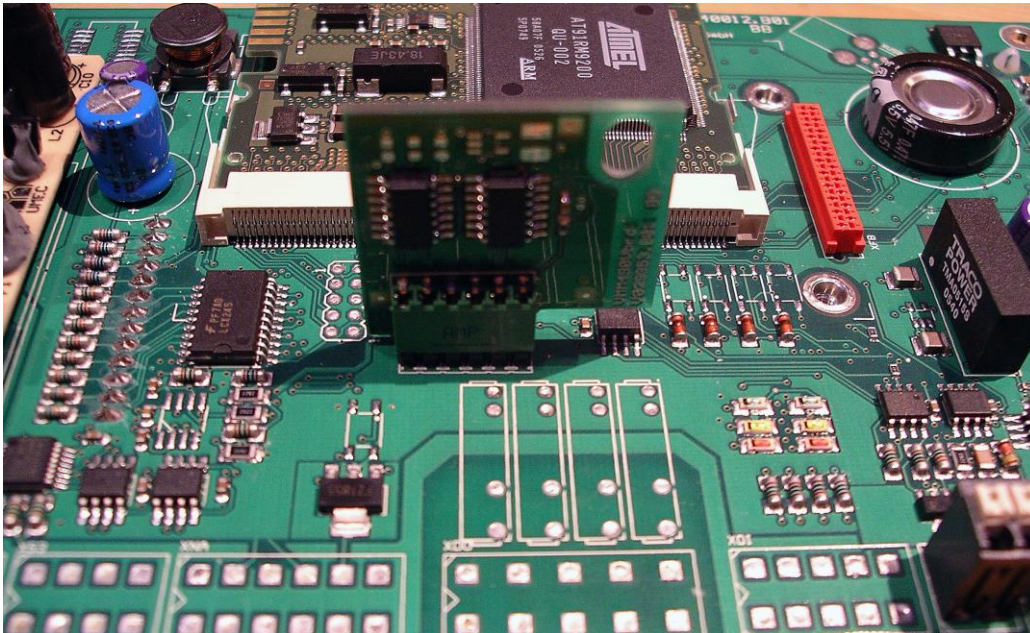

Fig. 19. L-F-T Memory VMM20490
- Attach the module to the XES connector (figure 19).
- If a fieldbus card is used simultaneously with the legal-for-trade memory, the legal-for-trade memory is protected by the bus card. The fastening bolt for the bus card has to be replaced with the plastic bolt that is included in the legal-for-trade memory marked with the arrow, Figure 19.